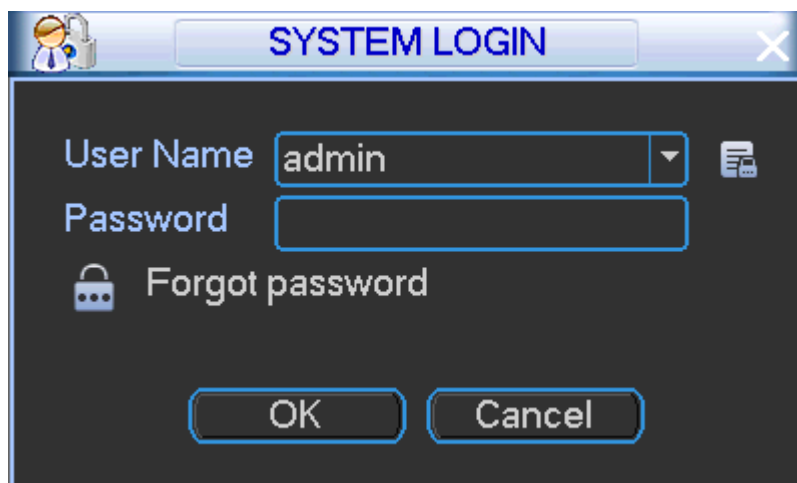

Figure 4-4
Step 1 On the preview interface, right click mouse and select Main menu, Enter login interface. See Figure 4-4.